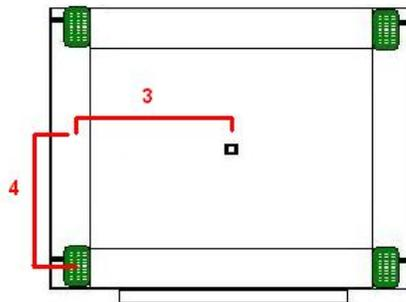

Figure 2-3: Marker_Phys_coords 3,4
Measure the distance from the calibration dot, to the reference line in the middle of the IR markers(3). Also, record half the distance between the IR markers(4) This is illustrated in Figure 2-3